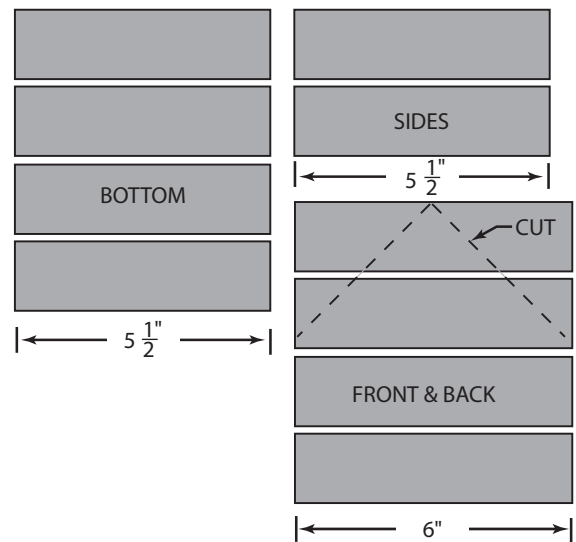

FIGURE 9-66 Birdhouse panel layout.
- Assemble and tack weld together four of the 5 1/2-in. long bars into a square flat plate with a 1/8-in. root space, Figure 9-66.